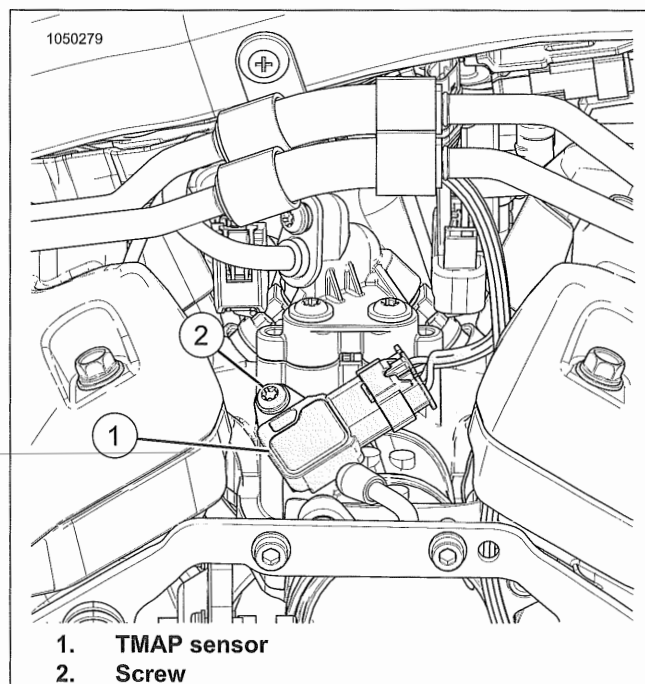

Figure 6-28. TMAP Sensor
2. See Figure 6-28. Remove TMAP sensor.
- a. Remove screw (2).
- b. Remove TMAP sensor (1).
1. See Figure 6-28. Install TMAP sensor.
- a. Install TMAP sensor (1).
- b. Install screw (2). Tighten to 23–39 in-lbs (2.5–4.5 N·m).